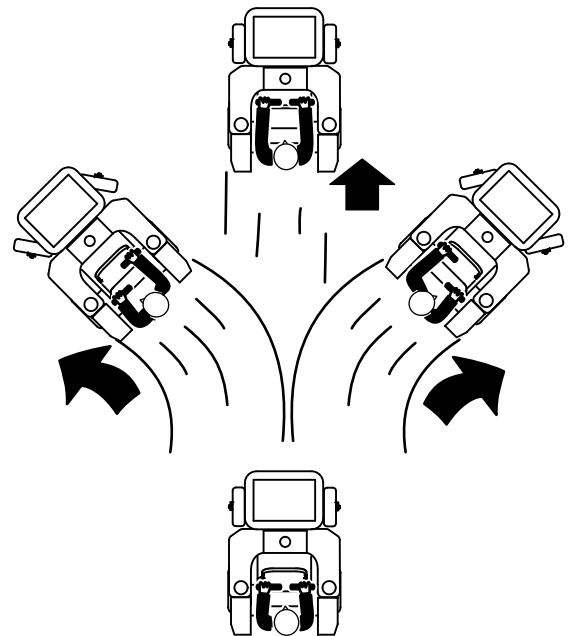

Figure 18
2. Slowly push the motion-control levers forward (Figure 18).